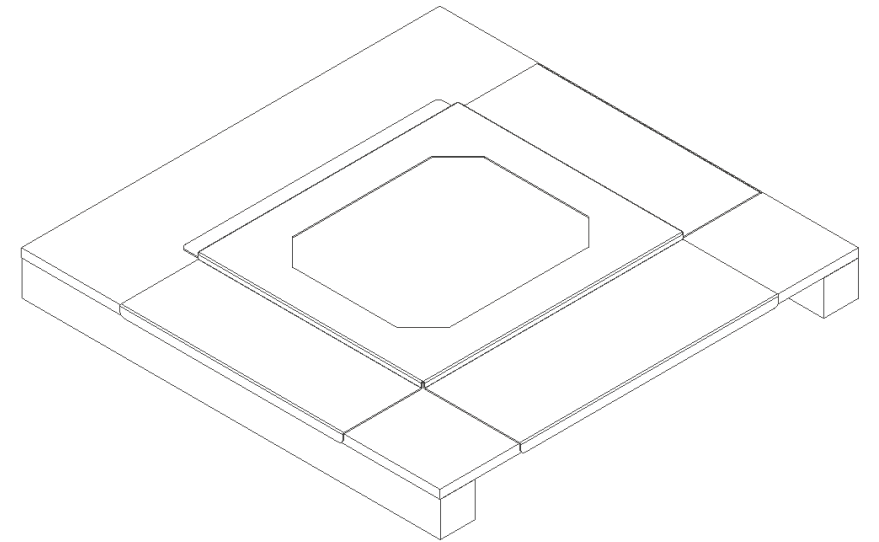

Figure 3
Step 3 - Place the Oberon Router Template on top of the tile that is to be cut. The raised portion that contains the cutout form should be facing up and there should be approximately a 1/4" gap between the top surface of the template and the top surface of the tile. Slide the three elongated outer edges of the template against the ceiling tile to center the cut. (Ref. Figure 3)